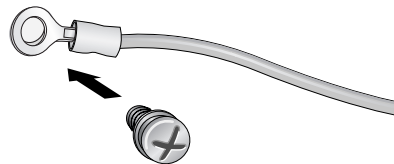

Figure 16 Inserting M4 Screw into the Cable Lug
2. Insert the M4 screw into the cable lug, as illustrated in Figure 16.